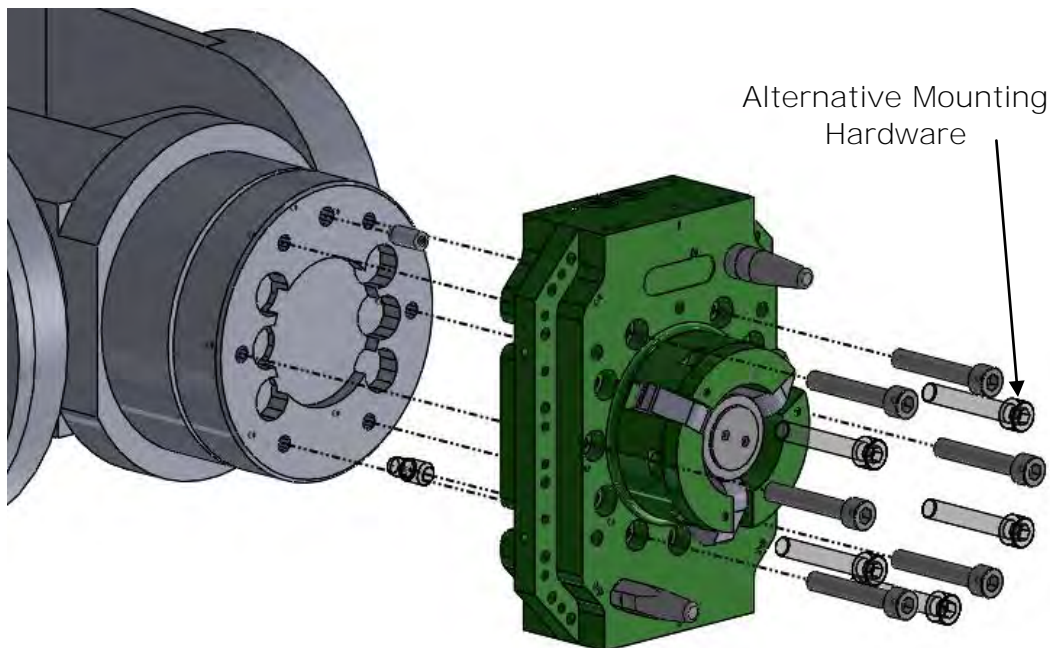

Figure 5.1-1. E125 Robot Adaptor Installation w/ M10 Hardware
1. Locate the Robot Adaptor to the manipulator mounting flange utilizing the locating boss and one (1) M10 locating dowel. Alternatively, the Robot Adaptor can be located using one (1) M10 locating dowel and one (1) M10/M12 stepped locating dowel (Figure 5.1-1).